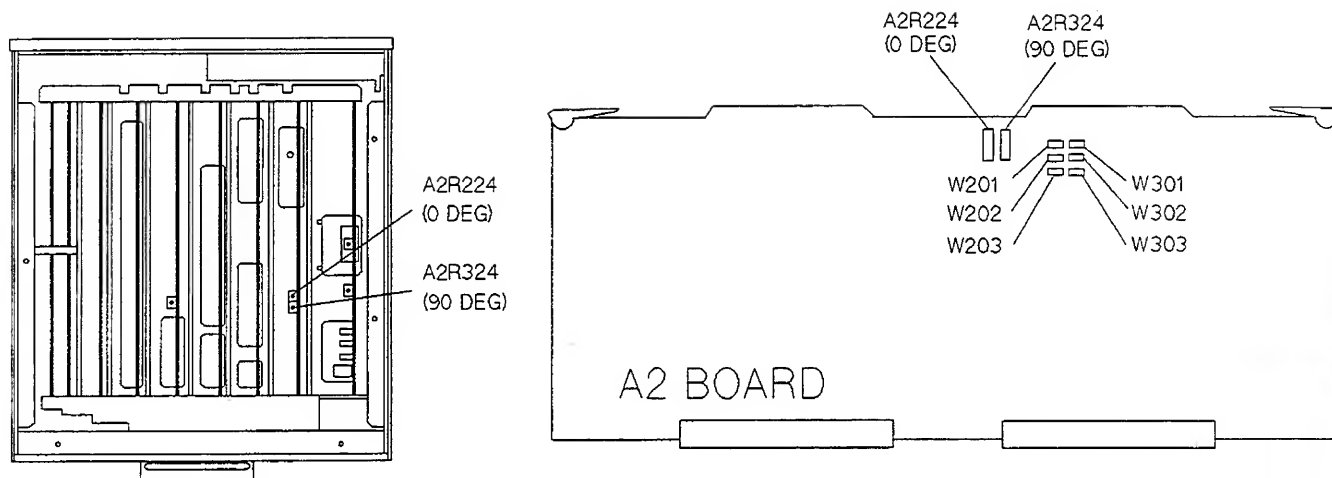

Figure 2-16. Zero Offset Adjustment Location
4. Perform the zero offset adjustment according to the program instruction. Figure 2-16 shows the A2R224 (0 DEG) and A2R324 (90 DEG) locations.